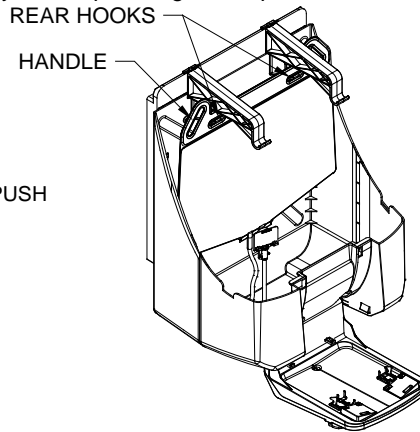

Figure 9
- A. Lift first Cartridge by handle provided and place on rear hooks of Hanger bracket (Ref Figure 9).